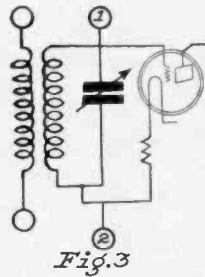

Fig. 3
- Fig. 3. Diagram illustrating the use of the vacuum tube voltmeter for measuring the radio frequency input voltage to a tube.
In Figs. 3 to 16 a few of the possible applications of the vacuum potential meter are suggested. Fig. 3 shows how the radio frequency input voltage to a tube